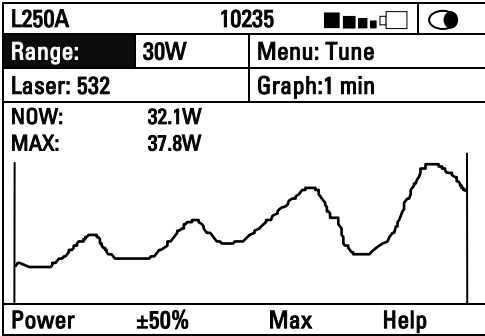

Figure 4.1
4.4.2.3. Tune See Figure 4.1
You can now use the tune screen to adjust and maximize your laser power. (See Figure 4.1). Note that you can not only see the trend, but also see if you have already reached a higher value before the numbers on the left side show you the present power reading as well as the highest one reached till now. Press “max” to reset the maximum reading to the present time. Now measure the power of the laser and adjust the laser until you determine that the power has reached a maximum.